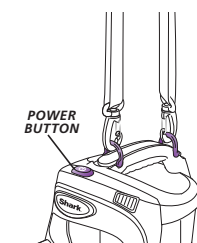

Fig. 4
- 4 Attach the shoulder strap onto the hooks on the handle of the Portable Vac. (fig. 4)
- 8 While holding the Portable Vac by the handle, press down on the power button to turn the Portable Vac on and begin vacuuming. Press down again to turn the vacuum off. (fig. 4)